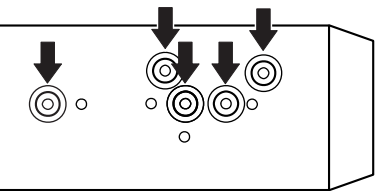
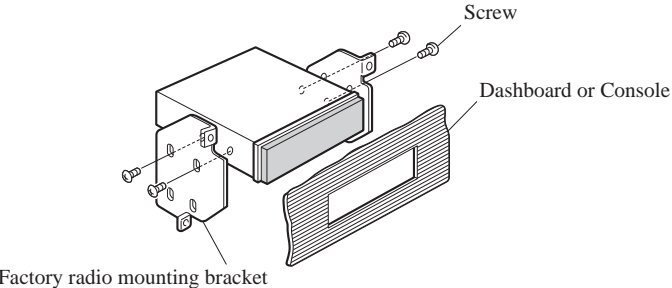

Fig. 11
Fig. 12
2. Fastening the unit to the factory radio mounting bracket. (Fig. 11) (Fig. 12)